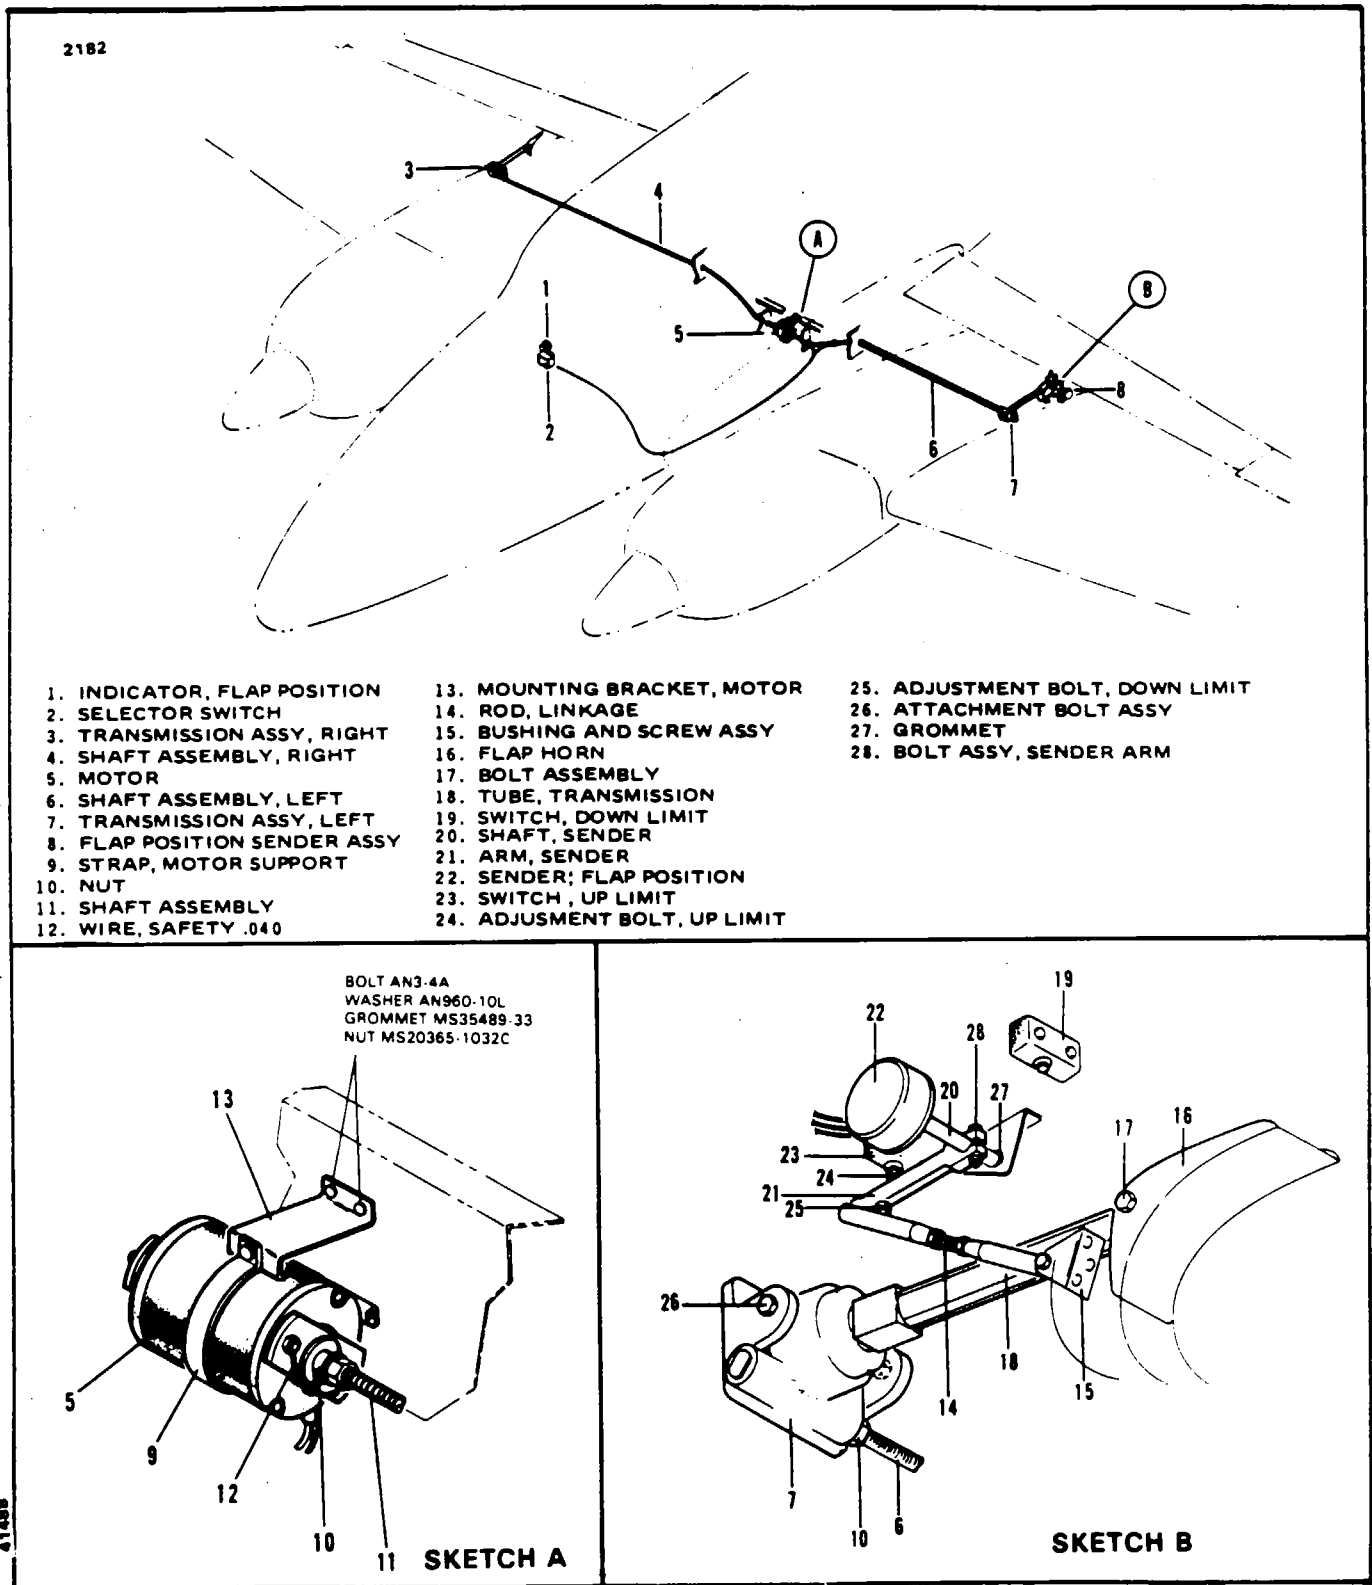

Figure 5-23. Flap Controls (Calco System)
5-73. REMOVAL OF FLAP ACTUATOR MOTOR. (Refer to Figure 5-23.)
5-77. INSTALLATION OF FLAP ACTUATOR MOTOR. (Refer to Figure 5-23.)
5-78. REMOVAL OF FLEXIBLE ACTUATOR SHAFT. (Refer to Figure 5-23.)
- 5-79. **INSTALLATION OF FLEXIBLE ACTUATOR SHAFT.** (Refer to Figure 5-23.)
- 5-80. **REMOVAL OF FLAP TRANSMISSION.** (Refer to Figure 5-23.)
- Disconnect the transmission tube (18) from the flap horn bracket (16).
- Remove the safety wire (12) and disconnect the flexible actuator shaft (4 and 6).
- Remove the spreader bushing and washers (15) from between the transmission attachment brackets.
- 5-85. **INSTALLATION OF FLAP TRANSMISSION.** (Refer to Figure 5-23.) Ascertain that the correct flap transmission assemblies are being installed by checking the part numbers on the assemblies with information in the latest PA-31-350 Parts Catalog.
- Insert the transmission through the access opening in the wing false spar and attach to its mounting brackets. To allow the transmission to rotate, tighten the attachment bolts (26) only finger tight and safety.
- If working with the left transmission (7), connect the flexible actuator shaft (6) and safety with MS20995-C41 safety wire. Attach the right flexible shaft (4) during rigging and adjustment.